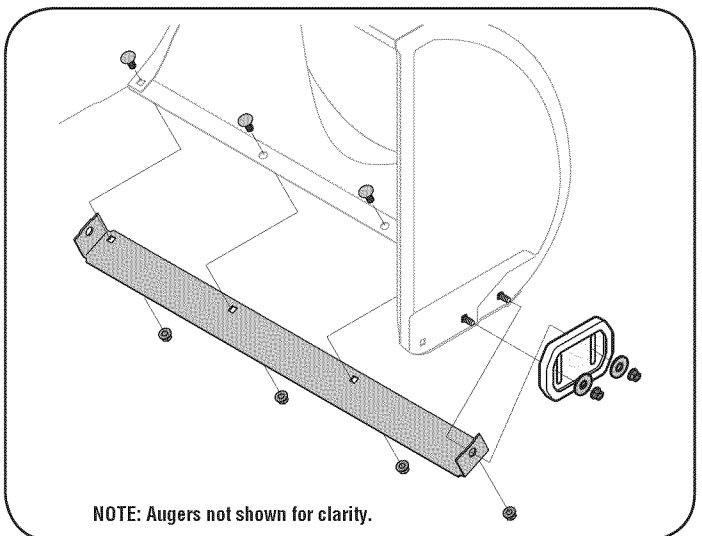

Figure 24
2. Reassemble new skid shoes with the four carriage bolts (two on each side), washers, and hex flange nuts. Refer to Figure 24.
2. Reassemble new shave plate, making sure heads of carriage bolts are to the inside of housing. Tighten securely. See Figure 24.